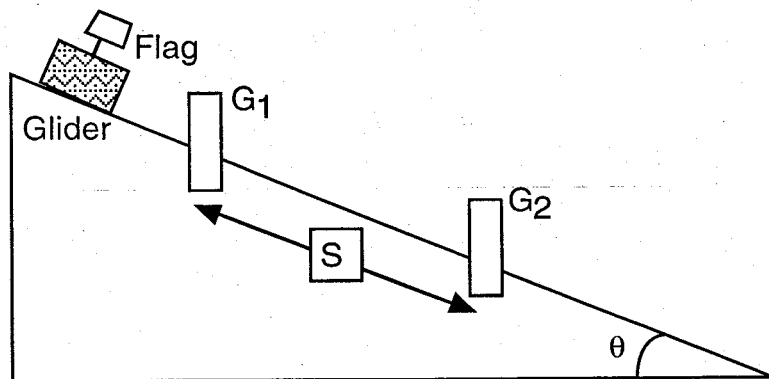

Fig. 5
In the double gate (B) mode, when an object such as a flag on the glider passes through gate 1 and through gate 2 (Fig. 5), time t_1 is the time during which gate 1 is blocked, time t_2 is the time taken by the object in going from gate 1 to gate 2 and time t_3 is the time during which gate 2 is blocked.